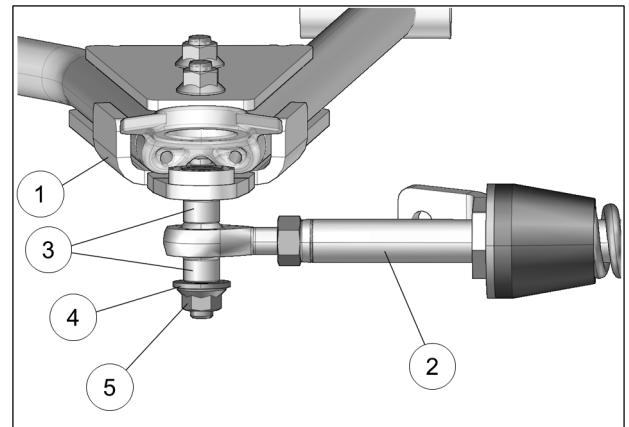

Fig. 21
9. Attach the stabilizing rod (**2**) to the anchor bracket (**1**), using the two spacers (**3**), washer (**4**), and nut (**5**). Torque to 70 N•m [52 lb•ft]. Refer to Fig. 21